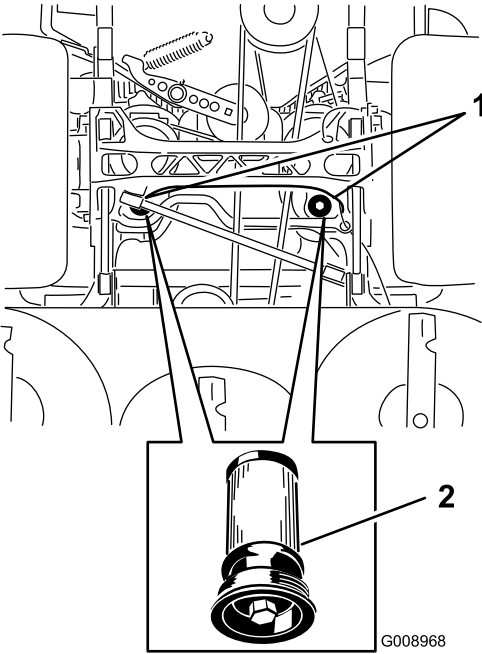

Figure 89
5. Place a drain pan under the filter, remove the old filter, and wipe the surface clean (Figure 89).
6. Apply a thin coat of hydraulic fluid to the rubber gasket on the replacement filter (Figure 89).